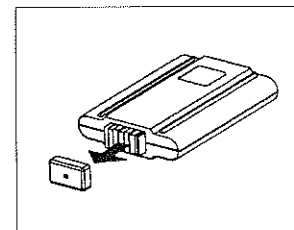

Figure 3
1. Remove the battery terminal cover from the battery. (Figure 3)